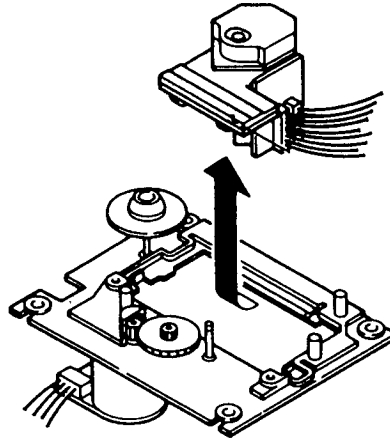

Figure 11
5. Remove the pickup (See Figure 11).